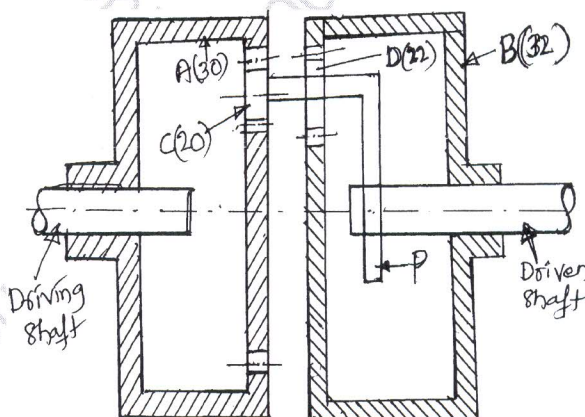

Fig.Q.7(b)
- b. An epicyclic gear train is shown in Fig.Q.7(b) Annular gear A is keyed to the driving shaft and has 30 teeth. Compound wheel C and D of 20 and 22 teeth respectively are free to rotate on the pin fixed to the arm P which is rigidly connected to the driven shaft. Internal gear B which has 32 teeth is fixed. If the driving shaft runs at 100rpm in CW. Find the speed of the driven shaft. What is the direction of rotation of the driven shaft with reference to the driving shaft? (15 Marks)